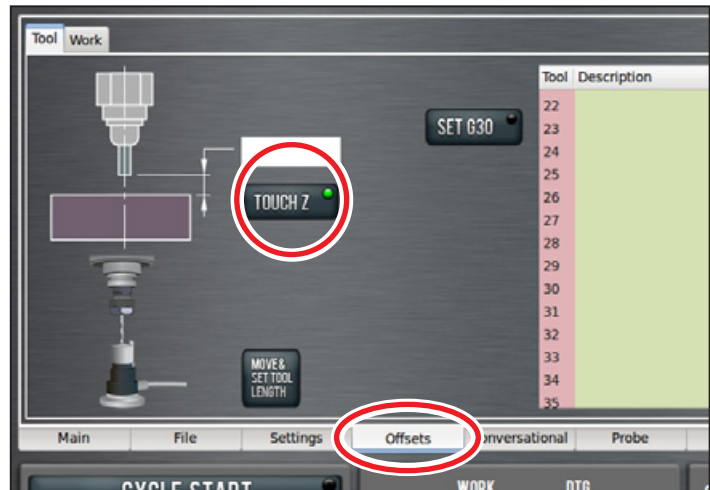

Figure 5.8
3. On the *Offsets* tab, enter 0.0 in the *Touch DRO* and click the *Touch Z* button (see **Figure 5.8**). If you were not touching on the top of the workpiece, but instead using a feeler gauge or piece of paper between the workpiece and the tool, you could enter the thickness of the gauge or paper in the *Touch DRO* before clicking *Touch Z* to account for the gauge thickness.